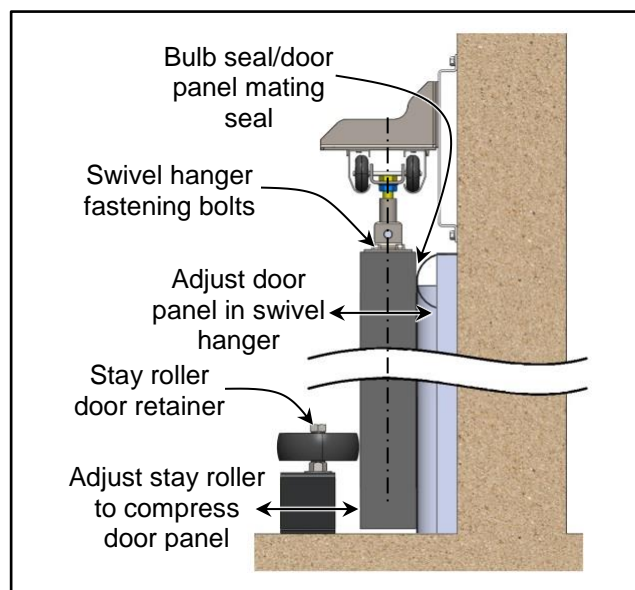

Figure 38
This is why during installation the head assembly's position and alignment with the door bulb seals are critical and how their mounting planes must be parallel and positioned within +/- 0.25 inch overall. The door seal adjustment must be done in 2 separate steps, the top header/door panel, and the bottom door/stay rollers. (See Figure 38)
5. From the back side of the door panel (left or right side of the door), check the horizontal and vertical seal between the door panel and bulb seal on the door opening top jamb. The door top bulb seal must fit tight against the back of each door panel along the complete door panel width. The door panel should compress the bulb seal $\frac{1}{4}$ - $\frac{1}{2}$ inch. Check this at the leading, trailing, and vertical top door panel edges. Bi-parting door panel centers must be aligned. (See Figure 38)
4. If any door seal adjustment is required on the bottom half of the door, loosen the screws securing the door panel stay roller to the floor. Then move the stay roller until the correct mate against the full length of the bulb seal along the back of the door panel(s) is achieved. Confirm stay rollers do not encroach the opening and are directly in front of the bulb seal. Tighten the stay roller fasteners, locking them in place on the floor. The F80 Standard Stay Roller may also be adjusted by loosening the bottom ¾-10 hex nut and moving the wheel on the bracket. (See Figures 38, 15, and 16)